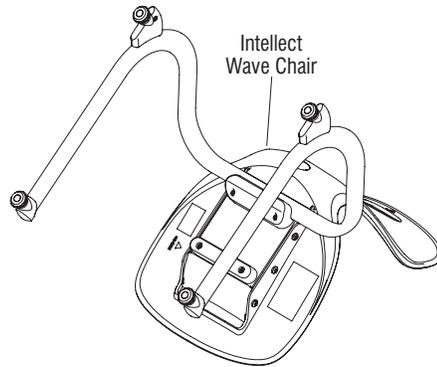

Figure 1
1. Tip the frame down onto a soft protective surface to access the heel glide as illustrated in figure 1.